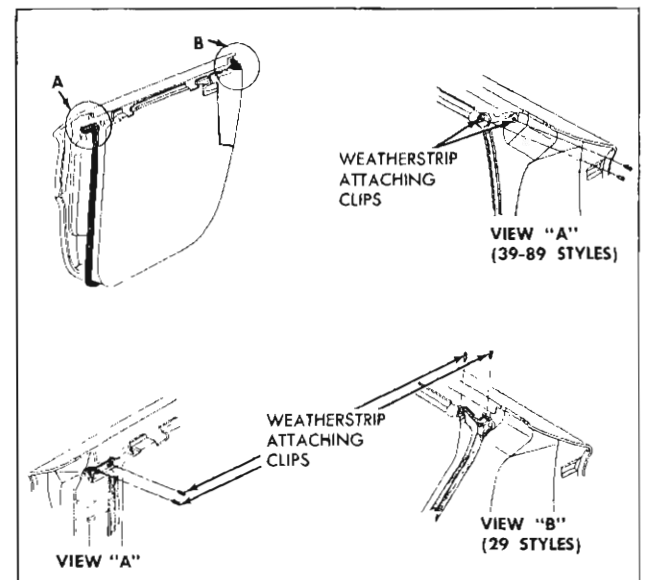

Fig. 34—Rear Door Weatherstrip Attaching Clips
1. Remove snap fasteners securing ends of weatherstrip at belt line of door hinge and lock pillar panels (fig. 34).